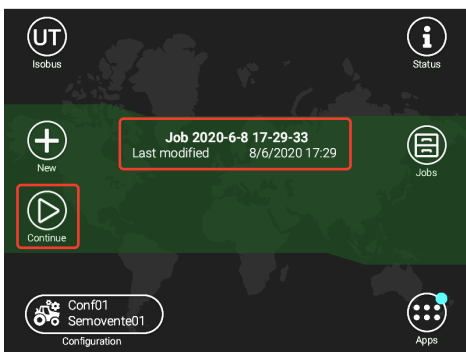

Fig. 131
- Press this icon to continue the last job performed (e.g. Job 2019-12... Fig. 131).